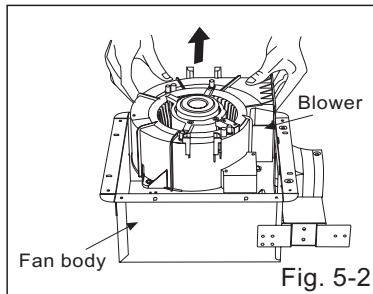

Fig. 5-2
2. Remove blower section. (Fig.5-2)
- (2) Remove blower from fan body as shown in Fig.5-2 of page 6. and then remove adaptor from fan body.